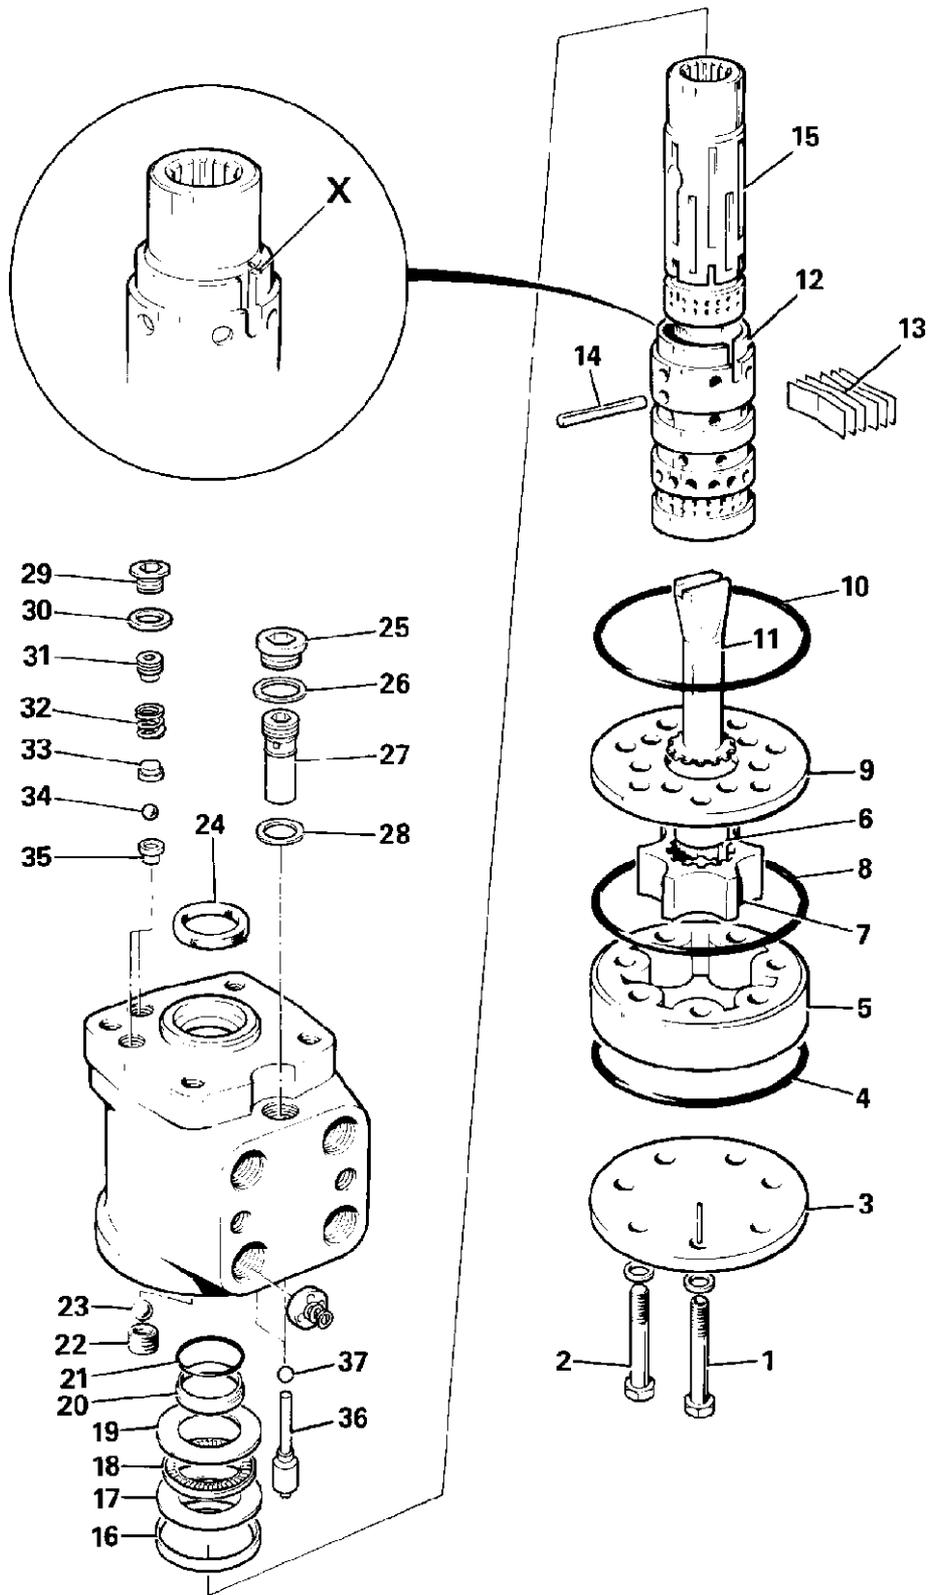

Fig 74. Hydraulic Steer Unit
⇒ Fig 74. (□ H-74). The numerical sequence shown on the illustration is intended as a guide to dismantling.
- 15 **Pressure Relief Valve** (items 25 to 28), ⇒ Fig 74. \(□ H-74\).
**16 Shock Valves** (items **29** to **35**), ⇒ Fig 74. \(□ H-74\).